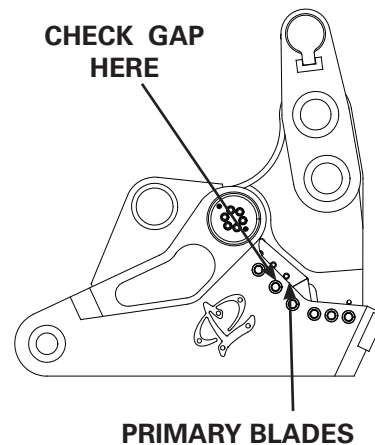

FIGURE 5-15
3. Close the shear further until the primary blades begin to bypass (see figure 5-15). Again, check to see how many shims can be slipped between the blades (or use the feeler gauge). Record this gap also. If the blades have been rotated properly at the correct intervals, the blade gap should be even over the entire span of the blades. If the gap is not even, contact your Stanley LaBounty dealer for assistance.